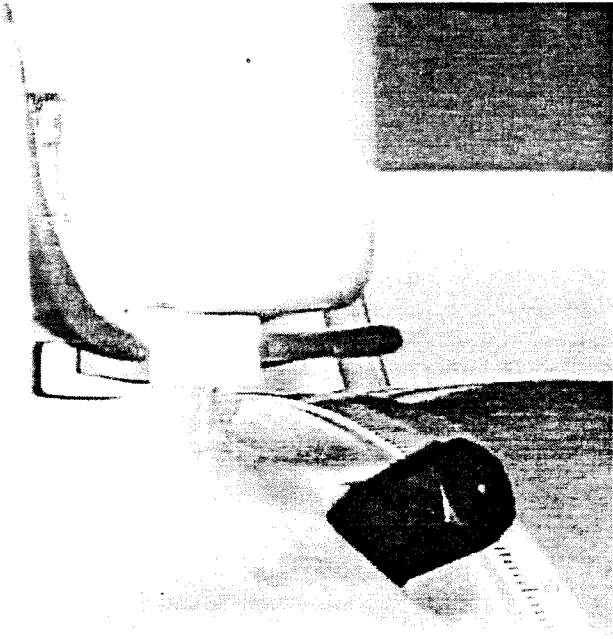

Figure 11
51. Install the Scale Cable Clamp on the right side belt housing swivel nut. **See Figure 11.**
52. Install the right chip cover from the back of the lower assembly and secure it using the remaining (3) 8-32 x 3/8" Hex head bolts.
54. The quill will have to be moved up and down to permit wrench access for tightening the (3) bolts.